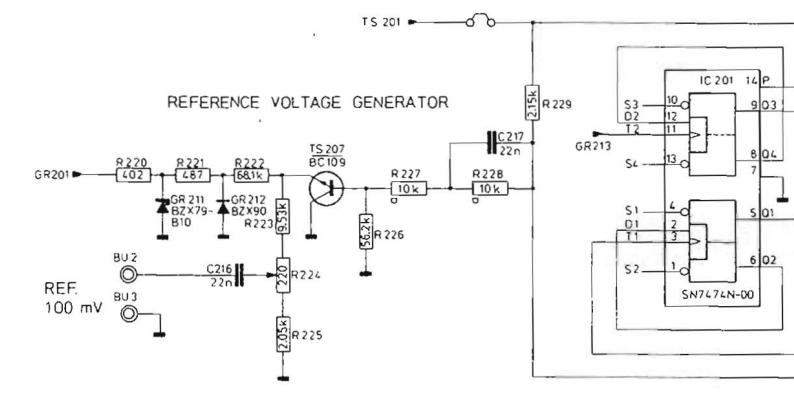

Fig. 15. Reference voltage generator
**VII-3. REFERENCE VOLTAGE GENERATOR, Fig. 15.**